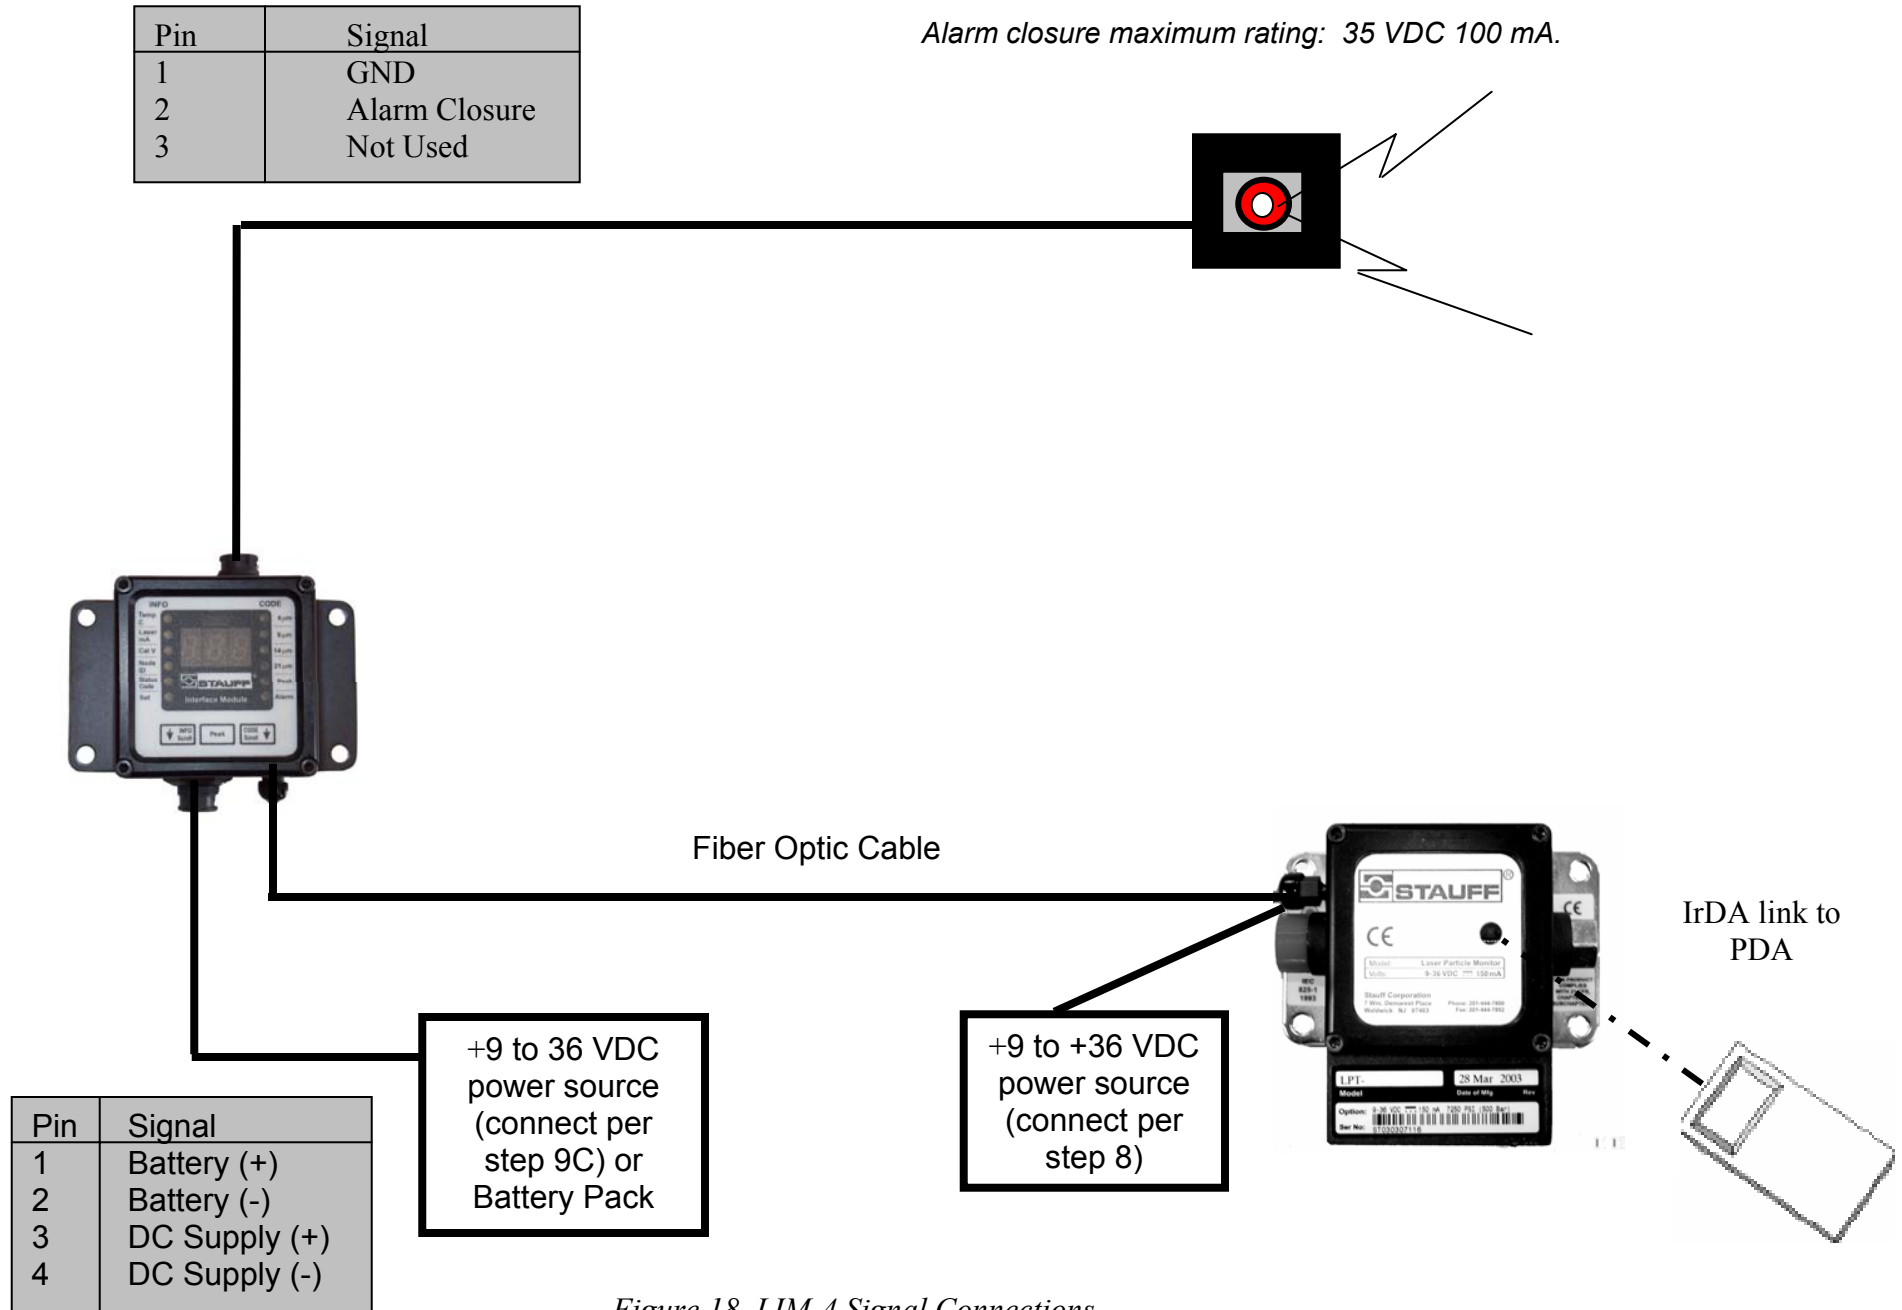

Figure 18. LIM-4 Signal Connections
- 1) Referring to LIM-4 pinout of Figure 18, connect leads from the voltage source selected to the appropriate pins of the cable connectors using safety-related wiring practices